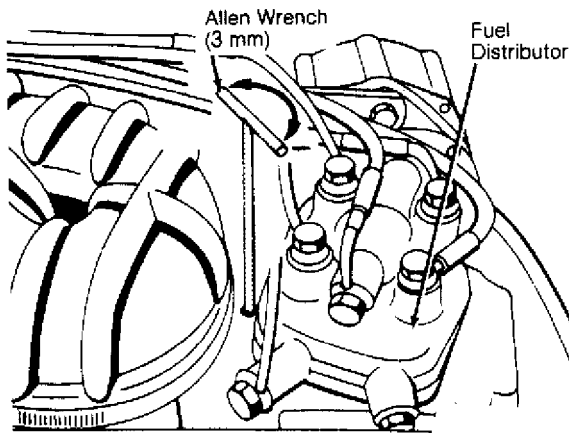

Fig. 4: Adjusting Idle CO (CIS-E)
11) Install a 1/8" sheet metal screw and remove plug using pliers. Start engine and run at idle. Adjust current reading to 10 milliamps by turning CO adjustment screw with Wrench (P 377). Turn screw clockwise to lower reading, counterclockwise to raise reading. See Fig. 4.